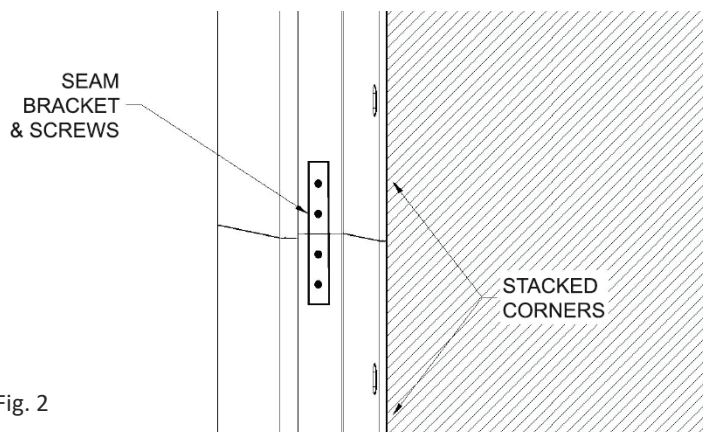

Fig. 2
5. In instances when the wall exceeds 10' or 20' and a second outside corner section must be installed, stack and butt the second piece to the first (Fig. 2).